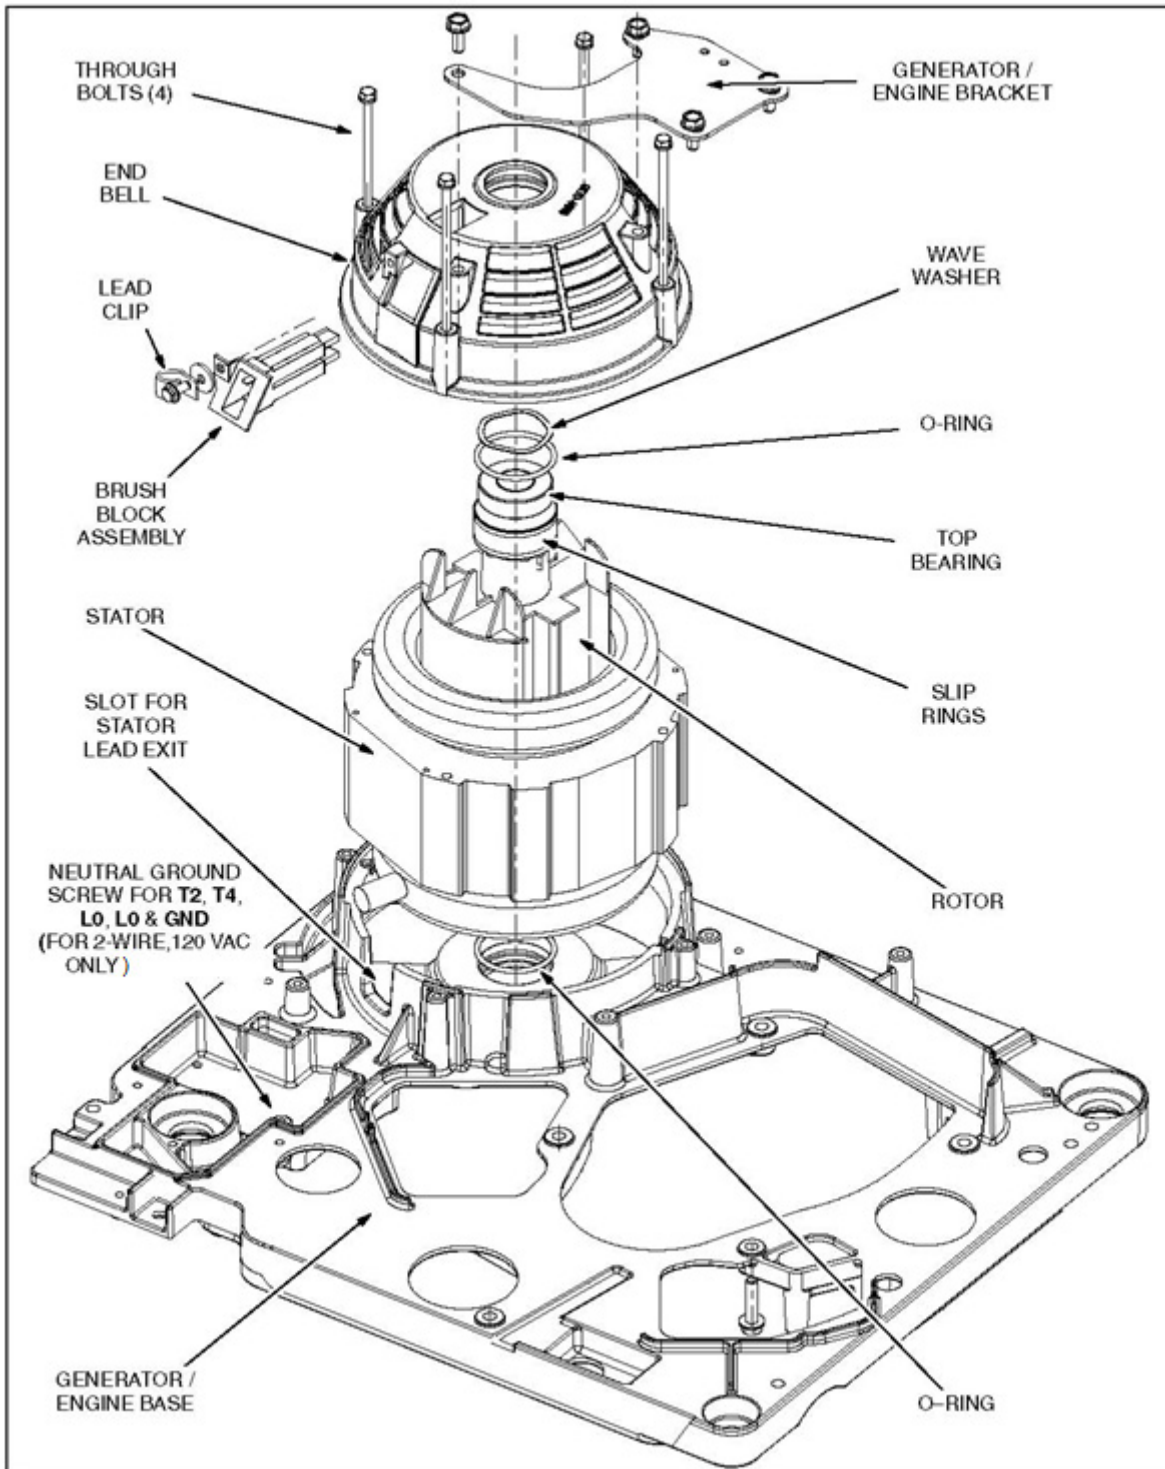

FIGURE 27. ALTERNATOR
The stator consists of steel laminations with two or three sets of windings in the lamination slots. The main windings (T1-T2, etc.) power the connected loads and the quadrature windings (Q1-Q2) supply power for the generator field. Some models have battery charging windings (B1-B2). See connection diagram in Figure 27.
Line circuit breakers (CB1, CB2, and CB3) are mounted on the control panel to protect the alternator leads and provide a means for disconnecting the alternator from the load. See the Figure 27 schematics.
6. Make sure the leads pass through the lead clip (Figure 27) to prevent strain on the terminals.